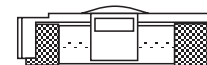

Figure 32. Fuse Holder
3. Confirm the fuse ratings by removing the two white fuse holders. To do so, simply insert the flat blade of the screwdriver behind the front tab of each fuse holder (Figure 32) and gently pry the assembly out.